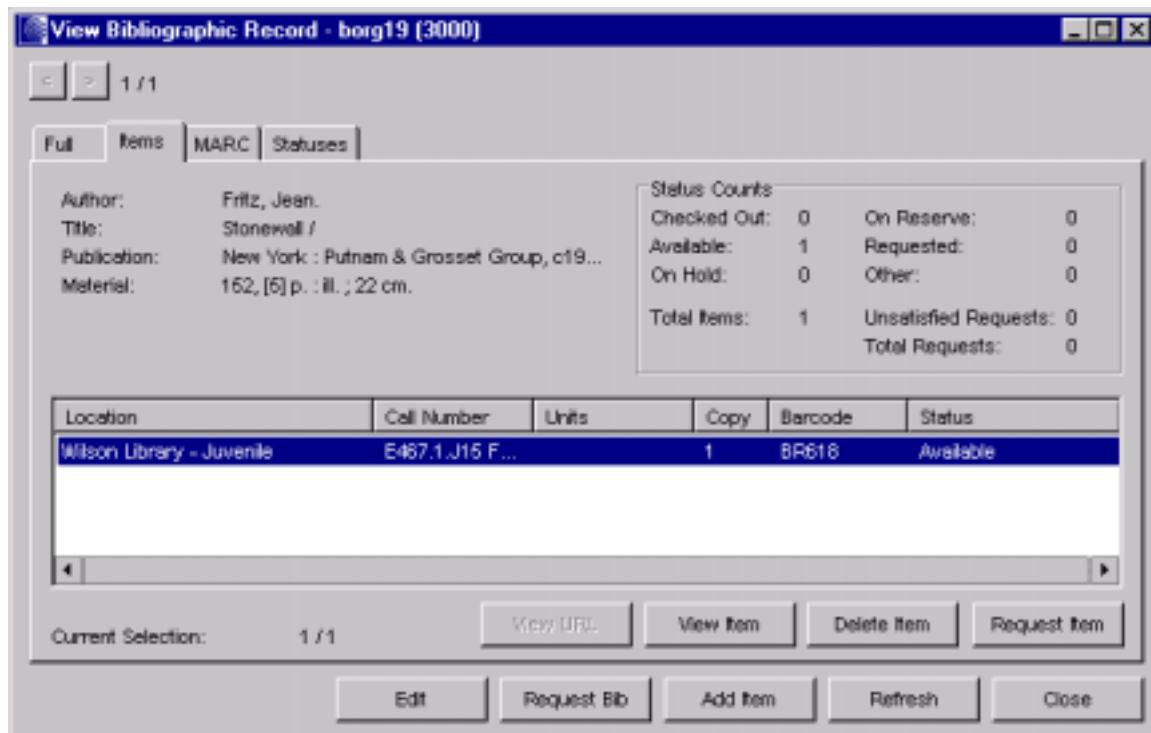

Figure 2-13. View Bibliographic Record Window
2. Search for and display the List of Titles window or the View Bibliographic Record window (Figure 2-13) for the title that you want to add to your purchase order.